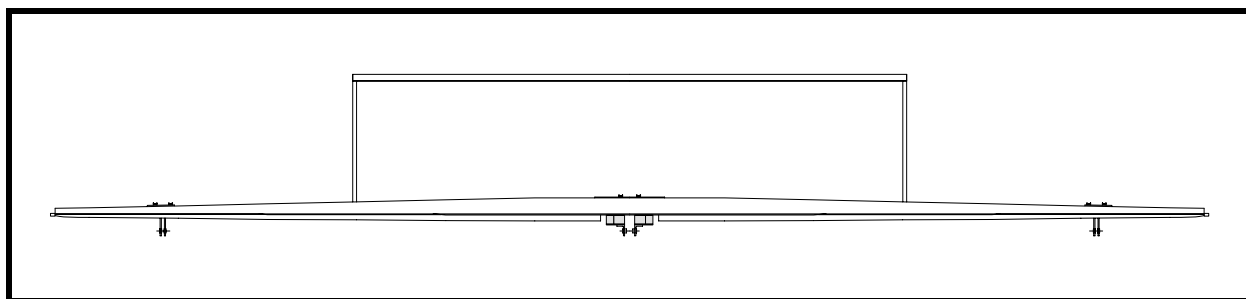

Figure 4
- ❑ Trial fit the forward stabilizer spar. See Figure 4. Check to make sure that the forward face of the forward stabilizer spar is 350mm from the aft face of the main stabilizer spar.